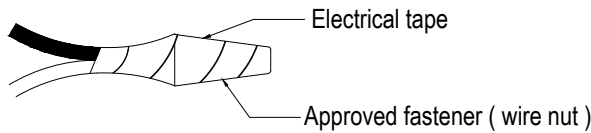

**FIGURE-01**
1. Attach the heavy duty strap to the junction box using mounting screws. (The green screw should face the floor). Adjust the threaded struds so that they extend 3/16" beyond the canopy. (See FIGURE-01)